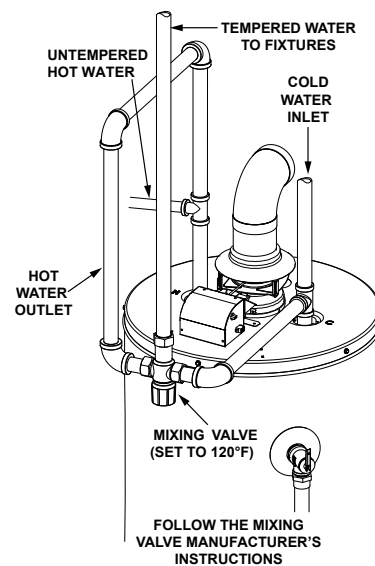

FIGURE 14.
3. The manufacturer of this water heater recommends installing a mixing valve or an anti-scald device in the domestic hot water line as shown in Figure 14. These valves reduce the point-of-use temperature of the water by mixing cold and hot water and are readily available for use.